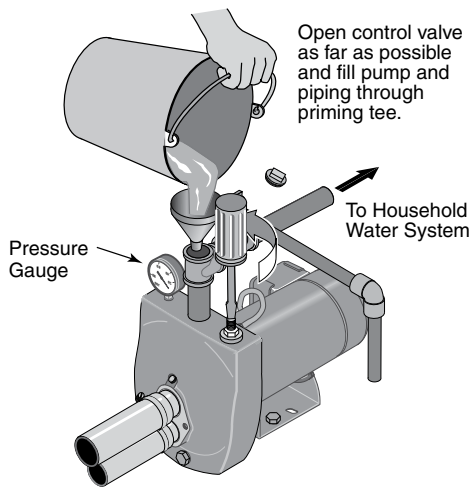

Figure 12: Fill Pump
Step 1. Open the control valve as far as possible (see Figure 12). Then remove the priming plug from the pump and fill the pump, fill all piping between the pump and the well, and make sure that all piping in the well is full. If you have also installed a priming tee in the suction piping, remove the plug from the tee and fill the suction piping.